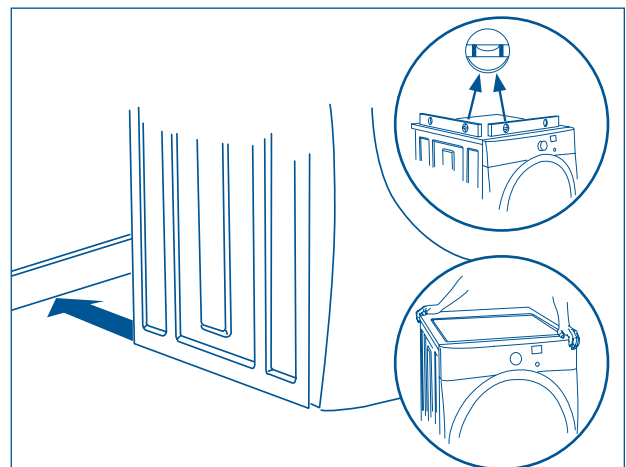

Figure 2-16.
2. Carefully slide the dryer to its final position. Adjust one or more of the legs until the dryer is resting solidly on all four legs. Place a level on top of the dryer. The dryer **MUST** be level and resting solidly on all four legs. Rock alternating corners to check for stability. Remove and discard door tape. (See Figure 2-16)